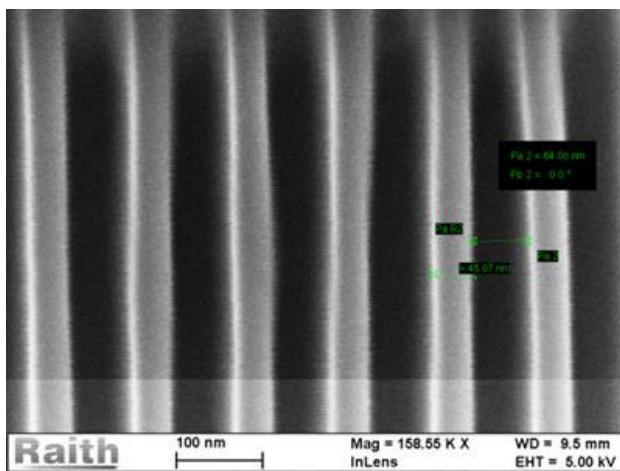
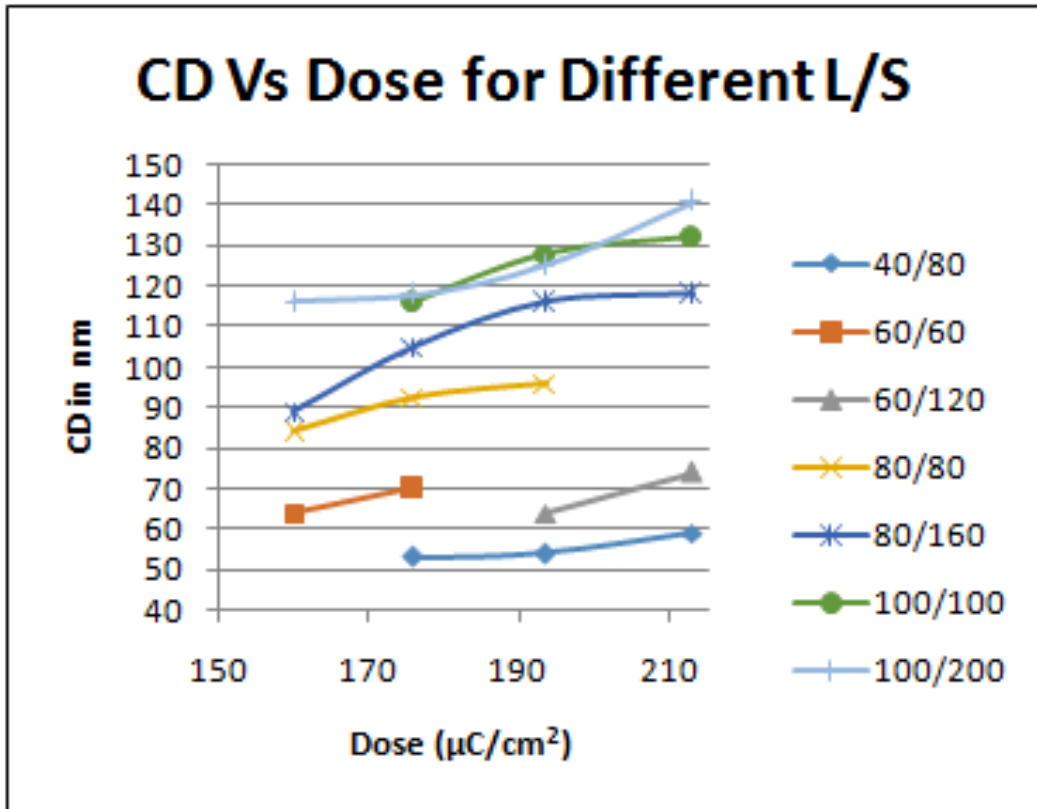
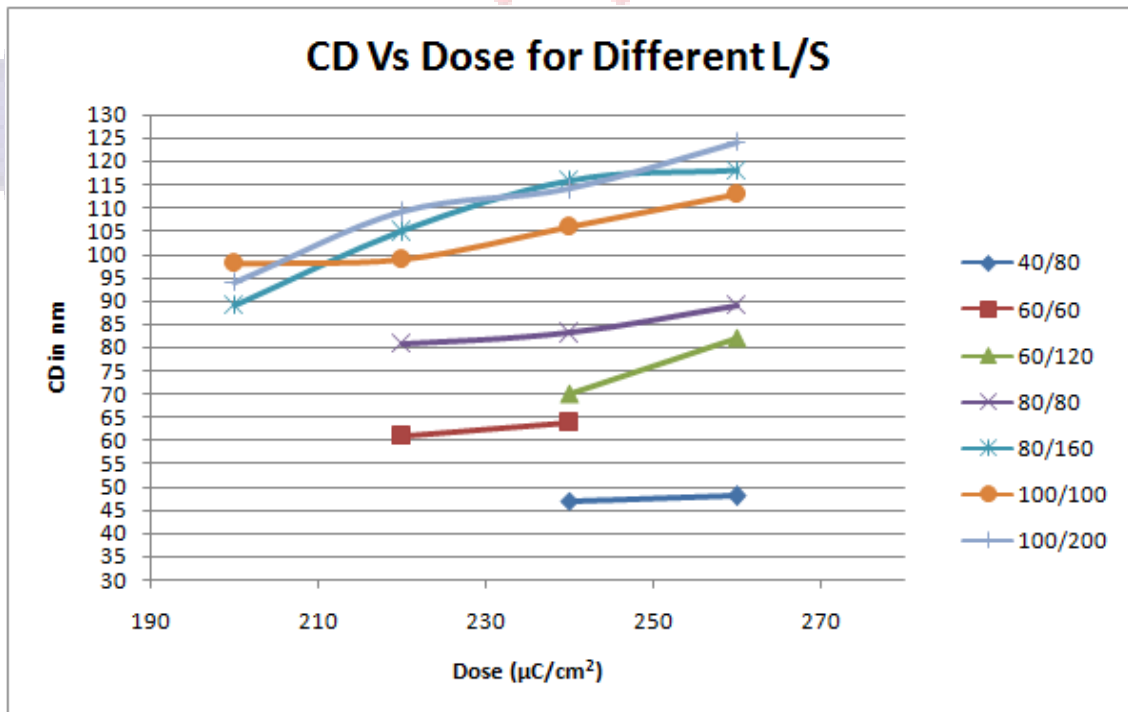

Figure.1 Features at 20kV EHT; Targeted L/S:60nm/60nm, Achieved : 64nm/47nm
Figure 3. Impact of electron beam dose on critical dimensions at 20kV EHT with different L/S
Figure 4. Impact of electron beam dose on critical dimensions at 30kV EHT with different L/S
FIGURE 1: FEATURES AT 20KV EHT; TARGETED L/S:60NM/ 60NM, ACHIEVED : 64NM/47NM .....	5
FIGURE 3: IMPACT OF ELECTRON BEAM DOSE ON CRITICAL DIMENSIONS AT 20KV EHT WITH DIFFERENT L/S .....	6
FIGURE 4: IMPACT OF ELECTRON BEAM DOSE ON CRITICAL DIMENSIONS AT 30KV EHT WITH DIFFERENT L/S .....	6
E-Beam Lithography exposures is carried out in Raith PIONER system. PPMA950KA4 resist spin coated on Si wafer with the speed of 6000rpm for 45 seconds and thickness is about 180 to 200nm. Sample is prebaked on hot plate at 170°C for 120 seconds. Area lines of different width and different spacing are exposed at 10kV, 20kV and 30kV EHT using 20 $\mu$ m aperture. Some specific high resolution patterns like squares, hexagon structures and circles optimised using 20kV EHT with 10 $\mu$ m aperture. After e-beam exposure, samples are developed in MIBK: IPA (1:3) developer for 45seconds and 15sec dip in stopper(IPA). Impact of electron beam dose on critical dimensions is studied and plotted as shown in Figure.3 and Figure.4.
The Critical dimensions(CD) using 20kV and 30kV EHT are optimized and shown in below figures and CD Vs Dose results are shown in Figure.3&4
figure.4.. High resolution Patterns at 10Kv EHT are much broader than the targeted feature size some features are completely merged. At 20kV EHT patterns are little broader than the targeted critical dimensions even at the optimum electron dose see figure1 and 2. At lower electron doses patterns are under exposed then pattern width is increasing from the optimum electron dose to higher dose. Some of targeted critical dimensions are achieved using 30kV EHT. This could be due to the penetration of electron beam through the resist with less scattering at higher EHT. Impact of EHT on critical dimensions is shown in figure.7.
Same critical dimensions with different spacing have different optimum electron doses. As shown in figure 3, the optimum electron dose for L/S=60/60 is  $\sim 160\mu\text{C}/\text{cm}^2$  and for L/S=60/120 is  $\sim 195\mu\text{C}/\text{cm}^2$ . This variations in dose could be due to the proximity effect. The optimum dose for L/S=60/60 pattern at 20kV EHT is  $\sim 160\mu\text{C}/\text{cm}^2$  and the optimum dose for L/S=60/60 pattern at 30kV EHT is  $\sim 220\mu\text{C}/\text{cm}^2$ . This indicates that the optimum dose for a pattern is varies with EHT. This is also is due to less scattering at higher EHT. Higher dose is required to cover the targeted feature at higher EHT.